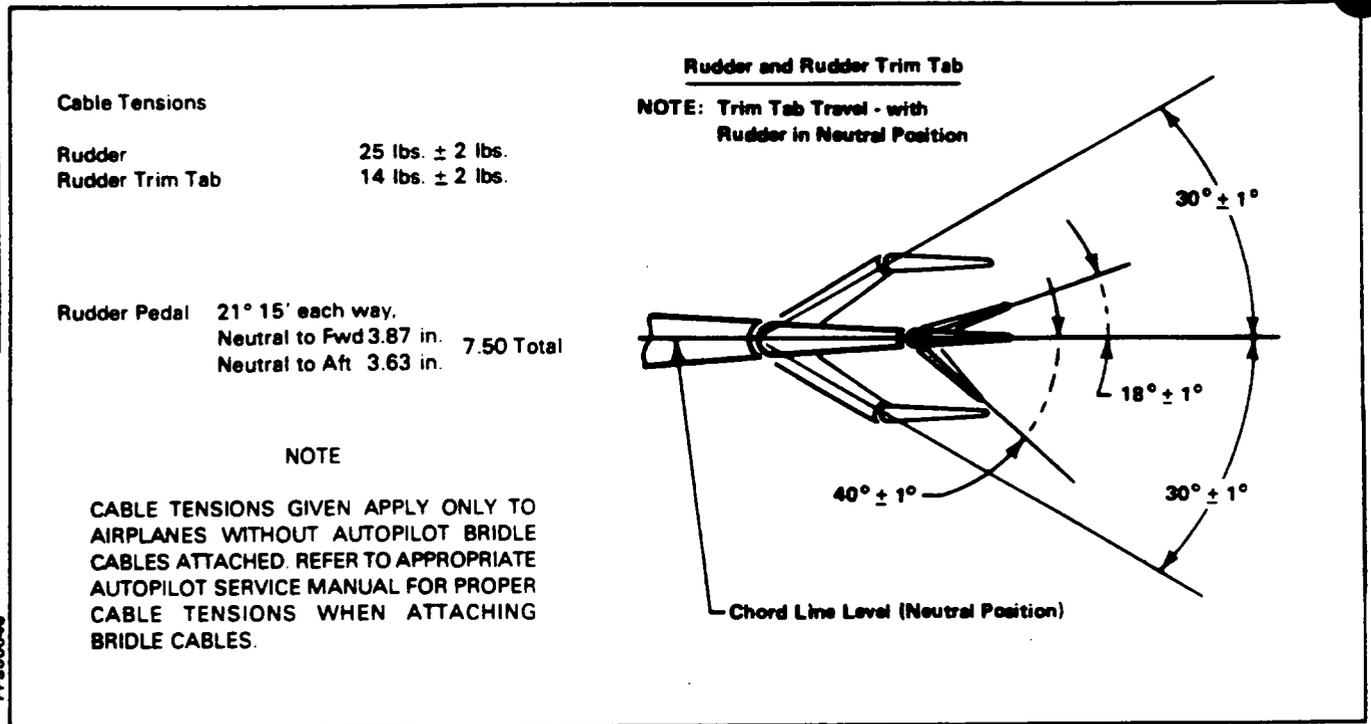

Figure 27-12. Rudder and Trim Tab Control Travels and Cable Tensions
5. Set cable tension per Figure 27-12 and rigging and adjustment.
3. Set cable tension per Figure 27-12 and rigging and adjustment.
- B. Adjust the turnbuckles at fuselage station 76.00 to obtain proper cable tension, per Figure 27-12, and to align the rudder at neutral position. Neutral position of the rudder may be established by aligning vertically the forward overhang at the upper portion of the rudder with the vertical fin or with the use of the fabricated rudder rigging jig. (A rigging jig and pointer may be fabricated from specifications given in Chapter 95.)
- G. Set rudder with stops to the degree of travel as given in Figure 27-12 and lock stops.
7. Set cable tension with the turnbuckles at station 287.50 per Figure 27-12 and check rigging and adjustment.
9. With the complete trim control system installed, set cable tension with the turnbuckles at station 287.50 per Figure 27-12 and check rigging and adjustment.
- C. Cable tension is set as given in Figure 27-12.
5. Turn the trim in each direction to screw stops to check tab angle or measured distance from the centerline of the rudder as given in Figure 27-12 and also check minimum number of wraps left on trim drum. (Minimum allowable is one and one-quarter turns.)